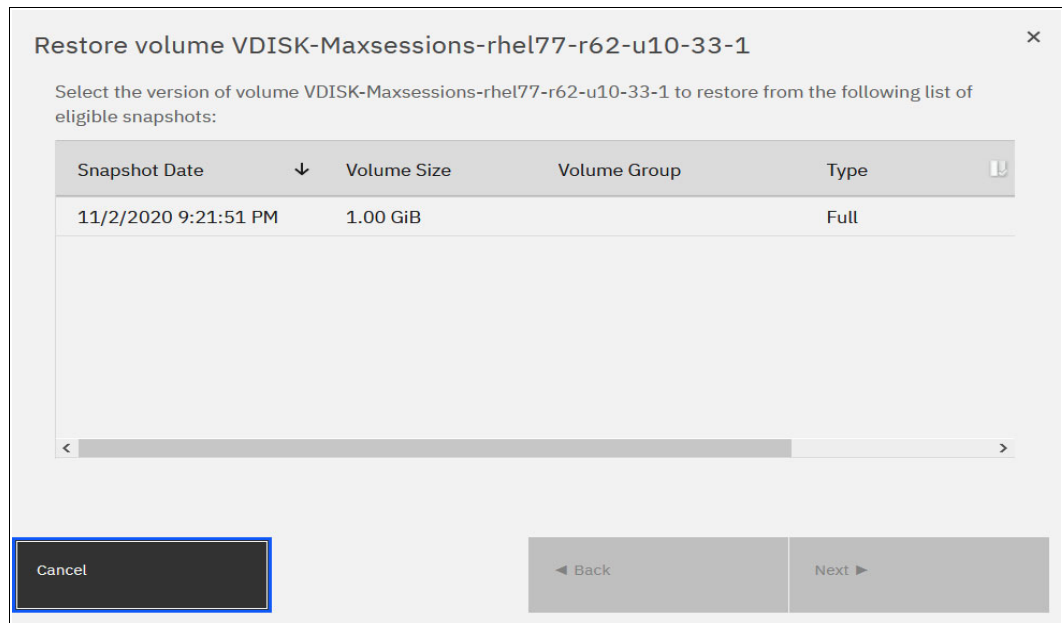

Figure 10-78 Selecting a snapshot version to restore
3. A list of available snapshots is displayed. The snapshots date (PiT), their type (full or incremental), their state, and their size are shown (see Figure 10-78). Select the version that you want to restore and click **Next**.